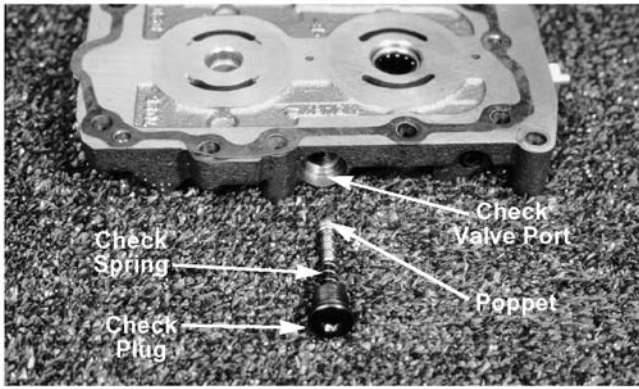

Figure 5-21.
- D. Check valve port. See Figure 5-21.